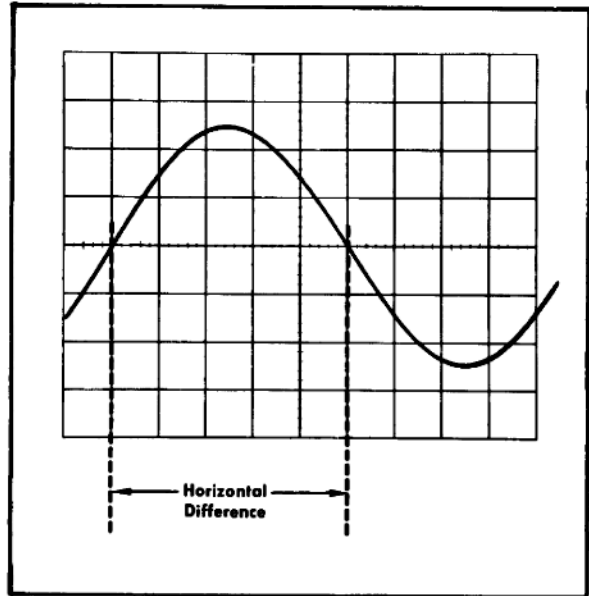

Fig. 2-9. Measuring the time duration between points on a waveform.
4. Set the MANUAL TIME/DIV switch to the fastest sweep rate that displays less than eight divisions between the time measurement points on the waveform (see Fig. 2-9). See the topic entitled Selecting Sweep Rate in this section, concerning non-linearity of first and last divisions of display.
Example. Assume that the distance between the time measurement points is five divisions (see Fig. 2-9) and the indicated sweep rate is .1 ms/DIV with the magnifier off.
Example. The frequency of the signal shown in Fig. 2-9 which has a time duration of 0.5 milliseconds would be: